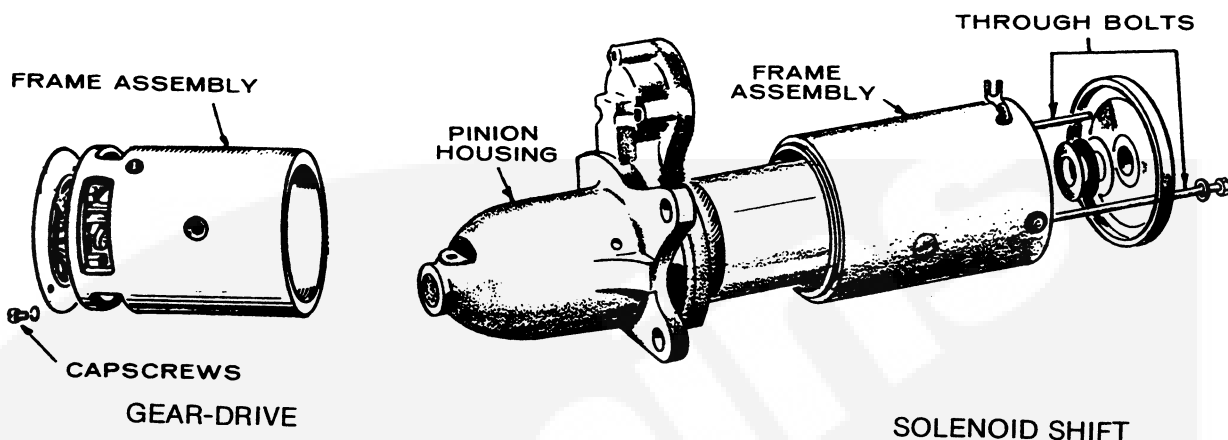

FIGURE 41. STARTER DISASSEMBLY
3. Remove the starter motor thru-bolts and separate the starter into three main assemblies — the front bracket, the housing and the rear bracket. On some gear-drive starters, short capscrews are used to hold the three starter sections together, Figure 41. The spacers on the solenoid starter in Figure 41 are used for adjustment of the thrust gap of the armature shaft and are located between the rear bracket and the commutator shaft.